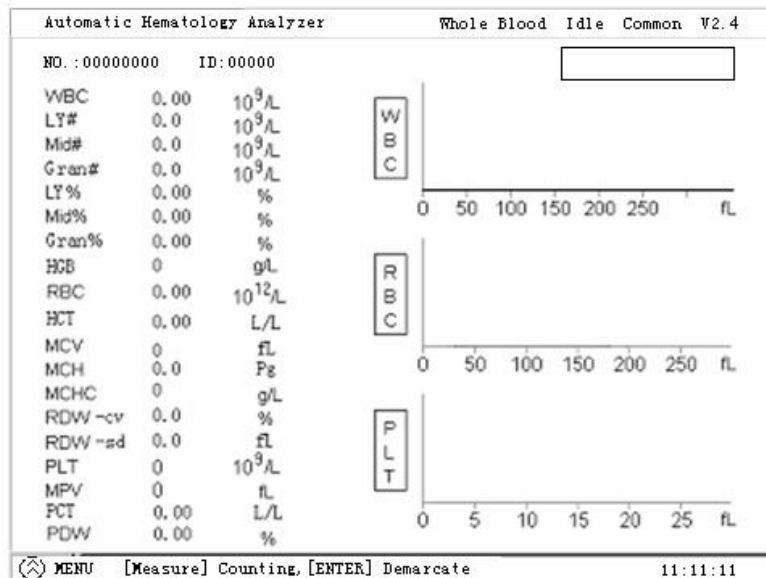

Figure 3-4
- I Malfunction Information Area: in upper-right area of counting interface, displays malfunctions during operation, refer to Figure 3-4
From left to right on upper-right side of the screen, it is Running Mode, Running Status, Reference Value, and Version as displayed in Figure 3-4.